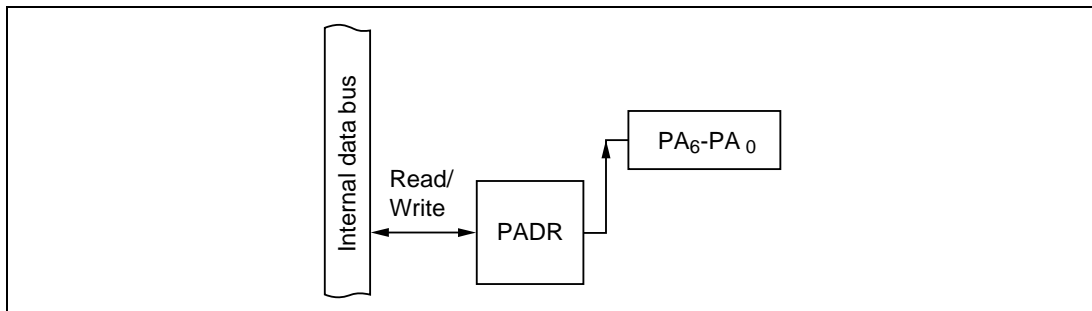

Figure 10-64 Output Port (Modes 1 to 7)
(2) **Output Port (PA₆ to PA₄ in Modes 1 to 7; PA₃ to PA₀ in Modes 1, 2, 4, 6, and 7):** Figure 10-64 shows a block diagram illustrating the general-purpose output function. Table 10-47 indicates register read/write data. The value written in the port A data register (PADR) is output at the pin. When read, PADR returns the value written in PADR.